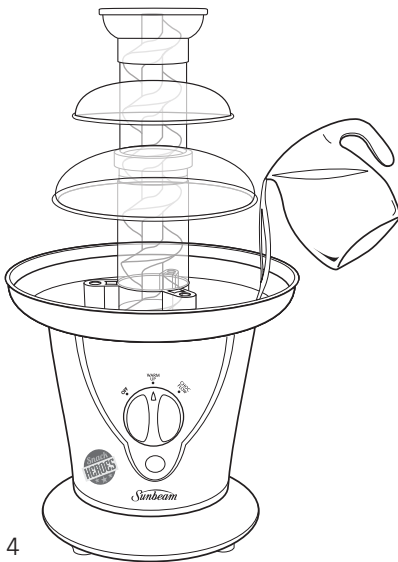

Figure 4
5. Pour the melted chocolate mixture into the base of the fountain and switch the dial to 'choc flow' to start the chocolate fountain flow. See figure 4.